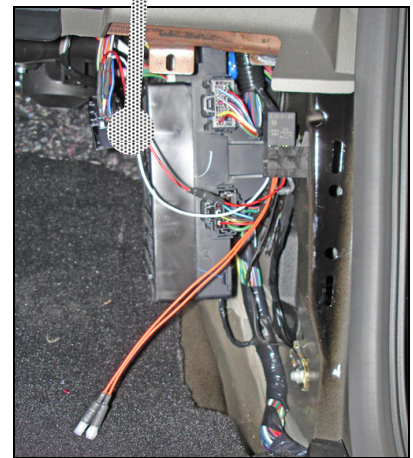

Figure 2
6. Locate and disconnect the 24-pin central junction box connector located in the passenger side kick panel area (it's in the upper-rear corner of the junction box, right next to the door; see Figure 2).